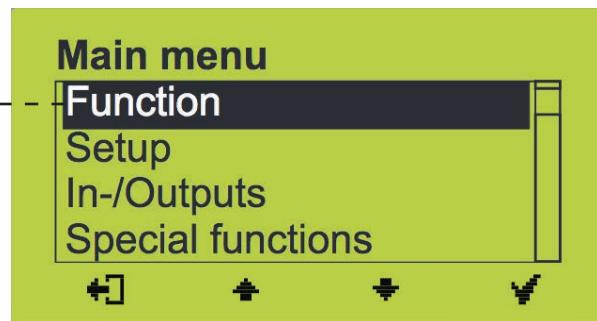

fig. 3.1a
3. While 'Magnetic Access' logo is still on screen, press either   buttons (fig 3.1a) to adjust contrast.